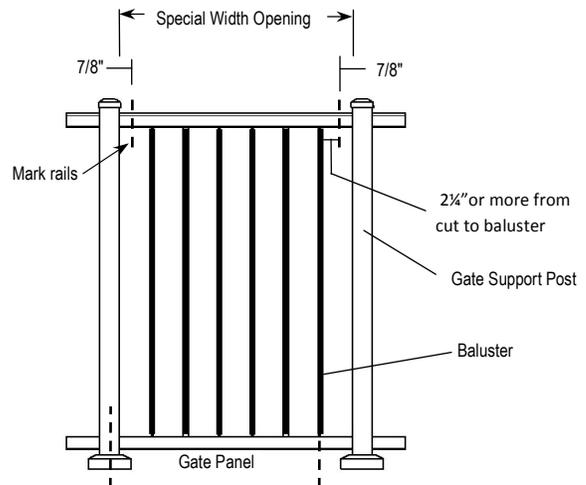

Fig 4
3. Position gate panel against gate support posts with equal baluster spacing on each end of rails (if possible). Mark rails where they are to be cut at 7/8" back from support post. (Fig 4). **NOTE:** Make sure there will be 2 1/4" or more of rail before the first baluster on each end.